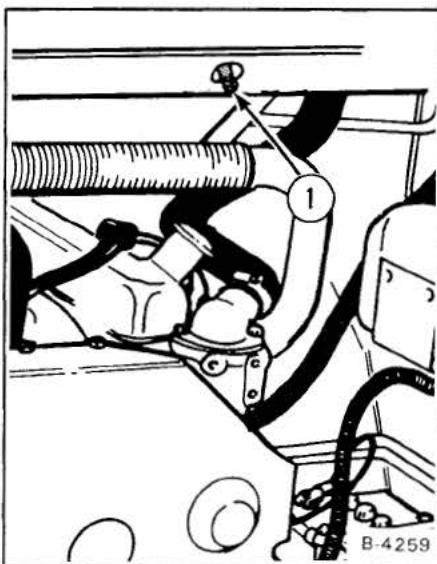

Fig. 63 Spark Arrestor Muffler
- Remove the plug at the bottom of the muffler (Fig. 63, Item 1).